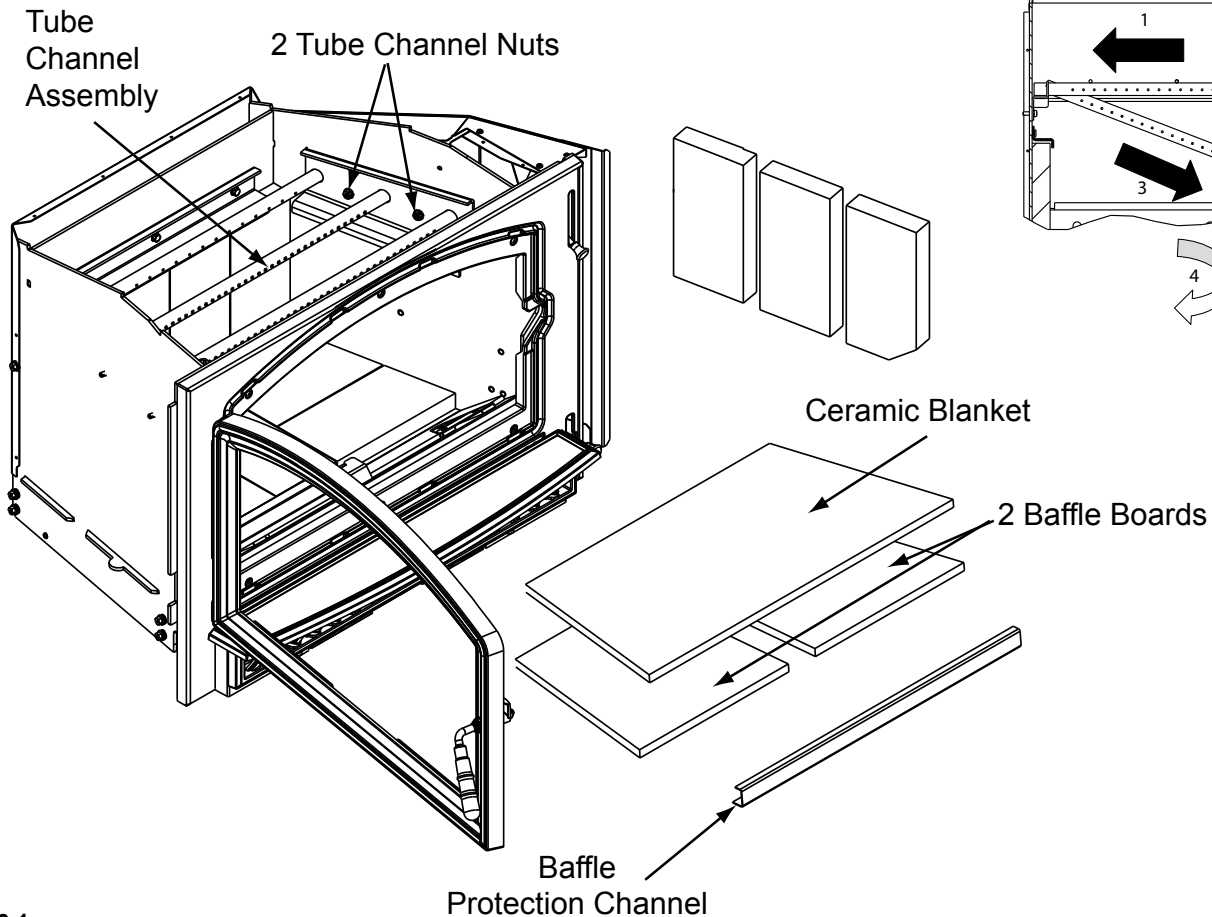

Figure 26.1
2. Remove the baffle protection channel by bending back the tabs using needle nose pliers located at the right and left side of the protection cover. Lift the cover up slightly and pull toward the front and out of the firebox (**Figure 26.1**).